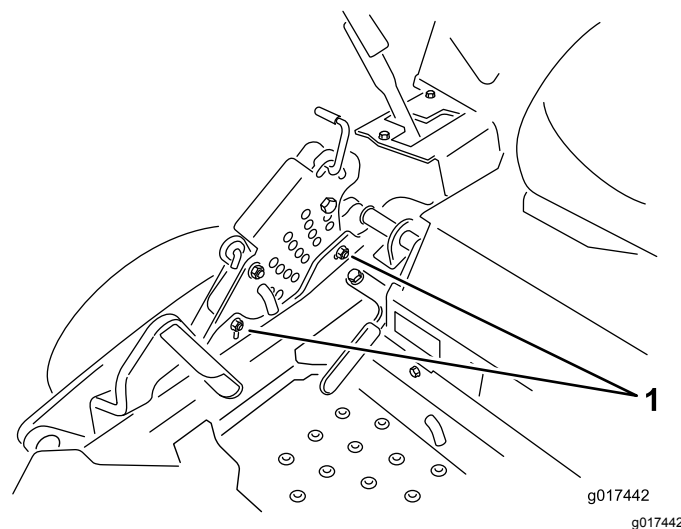

Figure 75
12. To adjust the single-point system, loosen the 2 bolts at the bottom of the height-of-cut plate (Figure 75).
14. Tighten the 2 bolts at the bottom of the height-of-cut plate (Figure 75).